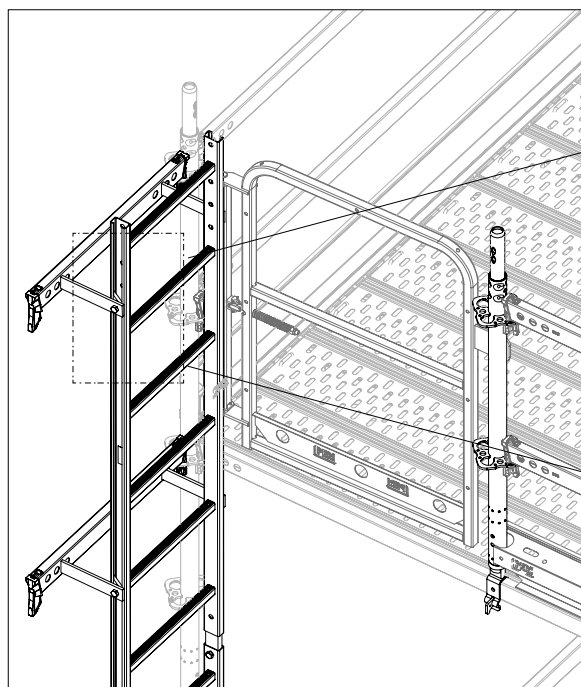
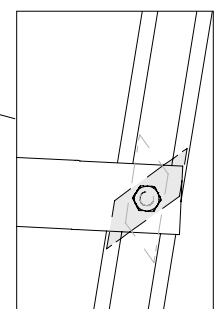

Fig. A9.12
Fig. A9.12b
3. Fit ladder 180/6 to ladder connector. To do this, slightly loosen screw M12 x 25 of the clamping plate (**69.1**), insert the clamping plate into the ladder stile (**76.1**), turn and tighten the screw. (Fig. A9.12 - Fig. A9.12b)
7. Fit a ladder connector at the top end of the ladder access in the area of the last rung. (Fig. A9.12)